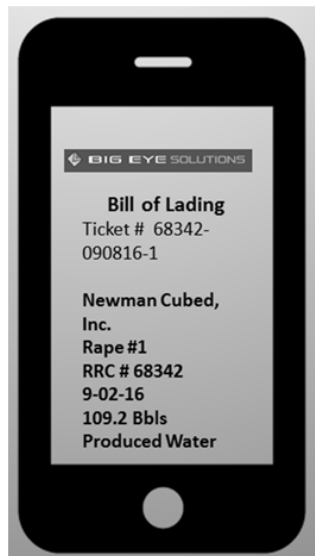

Figure 4
- As soon as the icon is pressed, the SBC sends the lower gauge reading along with how many barrels are loaded. The system populates the smart device with the needed data for a Bill of Lading. (Figure 4)